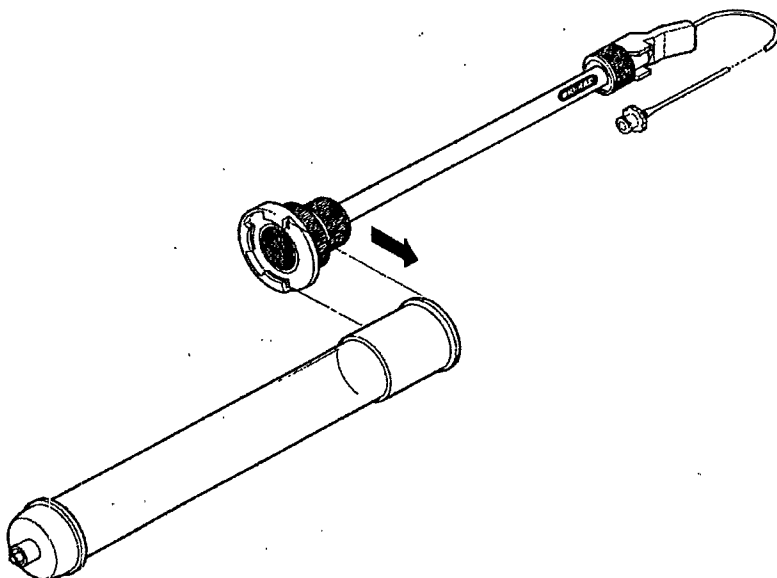

Fig. 3. Flow adaptor insertion.
1. Attach the flow adaptor to the column by first pulling the bed support housing up into the flow adaptor body. Secure the flow adaptor body to the column by sliding it onto the yellow flange of the column top. The flow adaptor body should snap into place (see Figure 3). **Warning:** Use caution when handling glass columns. They can break and cause injury.
3. Attach the flow adaptor body to the column by gently sliding the flow adaptor body across the yellow flange of the column top (Figure 3). (Note: The bed support housing must be pulled up into the flow adaptor body prior to attachment.) **Warning:** Use caution when handling glass columns. They can break and cause injury.